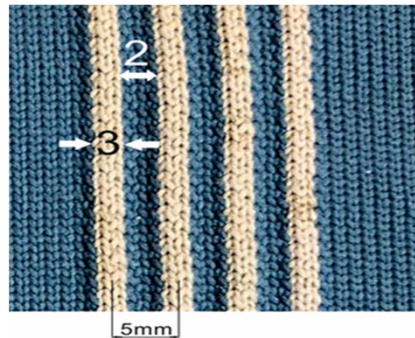

Figure 1: knitted cable channels
- Conventional (shielded) cables can be used in **knitted cable channels** (see figure 1)